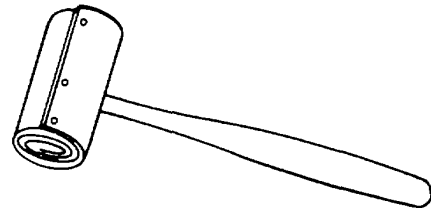

**Figure 4-6. Soft-Faced Hammer**
(6) Soft-faced hammer. The soft-faced hammer, shown in figure 4-6, is capable of delivering heavy blows to machined, highly polished, or soft surfaces without damage to those surfaces. On some of these hammers, the faces can be removed and replaced when damaged or when a different hardness or toughness is required. These faces are color coded according to their hardness or toughness, as shown in the following listing: